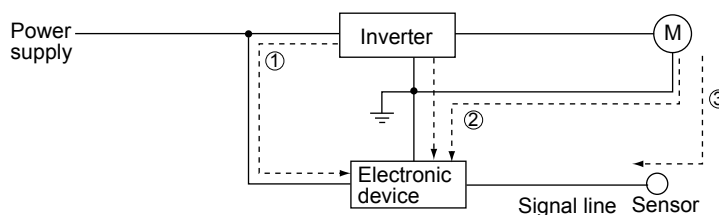

Fig. 3 Conduction noise
(1) Conduction noise
Conduction noise is generated in the inverter, propagates through the conductor and power supply, and effects peripheral devices of the inverter (Fig. 3). Some conduction noise ① propagates through the main circuit. If the ground lines are connected with a common connection, there is conduction through route ②. There is also noise ③ through the signal line and shielded wire.